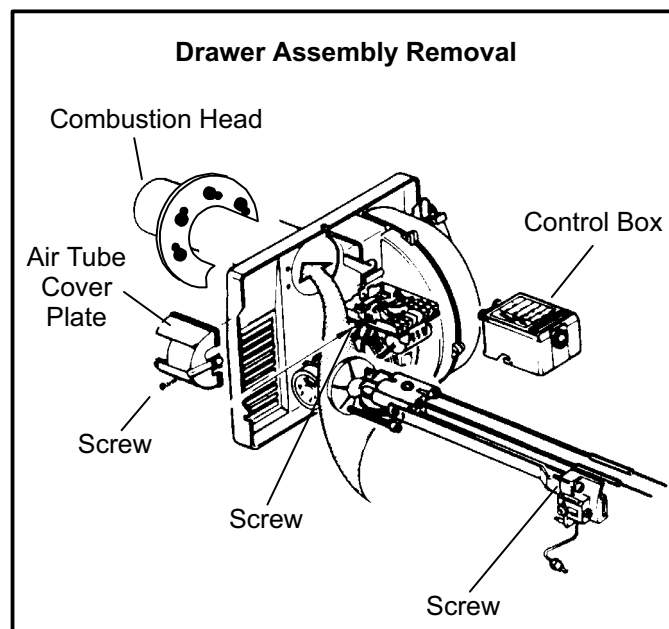

FIGURE 3
- 3 - Locate drawer assembly. Loosen screw which holds control box in place. Remove control box by carefully pulling it back and then up. See figure 3.
- 5 - Loosen the screw which secures the drawer assembly in place. Slide the drawer assembly out of the combustion head as shown in figure 3.